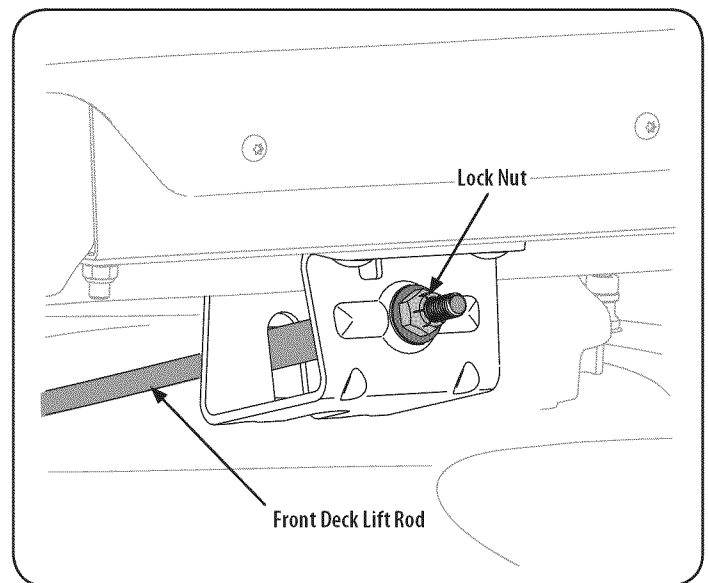

Figure 28
5. Using a wrench, raise or lower the front of deck by turning lock nut on the front deck lift rod. See Figure 28.